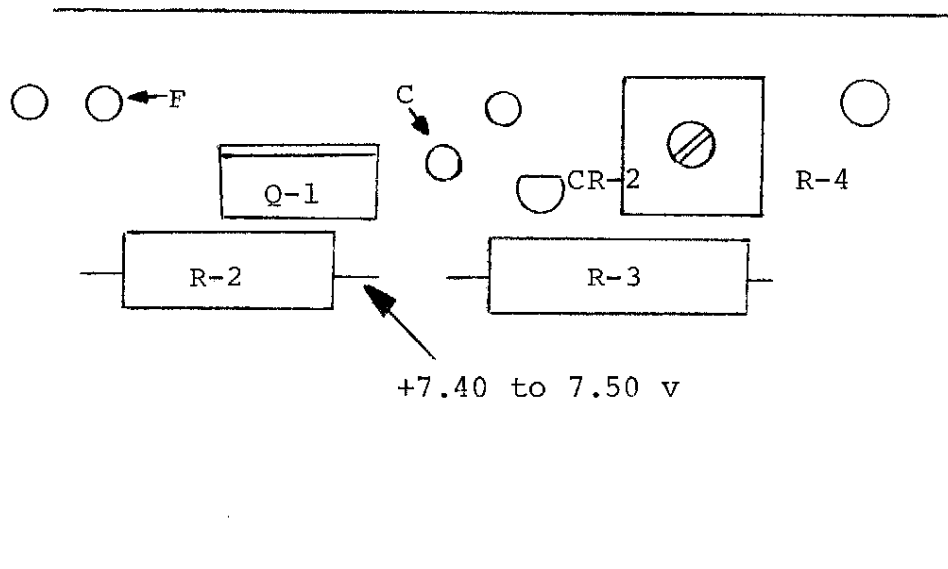

FIG. 4-1
NOTE: Please refer to Fig. 4-1. The above points are located on Model 3262 Battery Charger PC Board, which is mounted on a base plate in the bottom of the instrument case. The most convenient point at which to connect to the base of Q-1 is the lead of R-2 as shown in Fig. 4-1.
2. Disconnect RED and BLACK wires from terminals C and F, respectively, on Model 3262 Battery Charger PC Board. See Fig. 4-1.